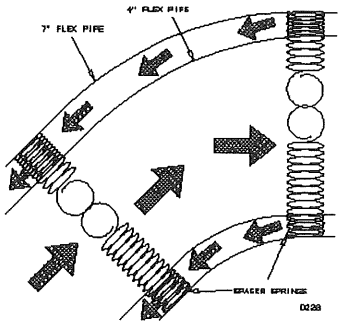

Figure 3
- 3) Install spacer springs by stretching the spring around the 4 inch pipe and looping it at the ends as shown in **Figure 3**.
- 4) With spacer springs in place, continue connecting the 7 inch pipe to the outer collar on back of unit by sliding the entire 7 inch pipe over 4 inch pipe with springs in place as shown in **Figure 3**.